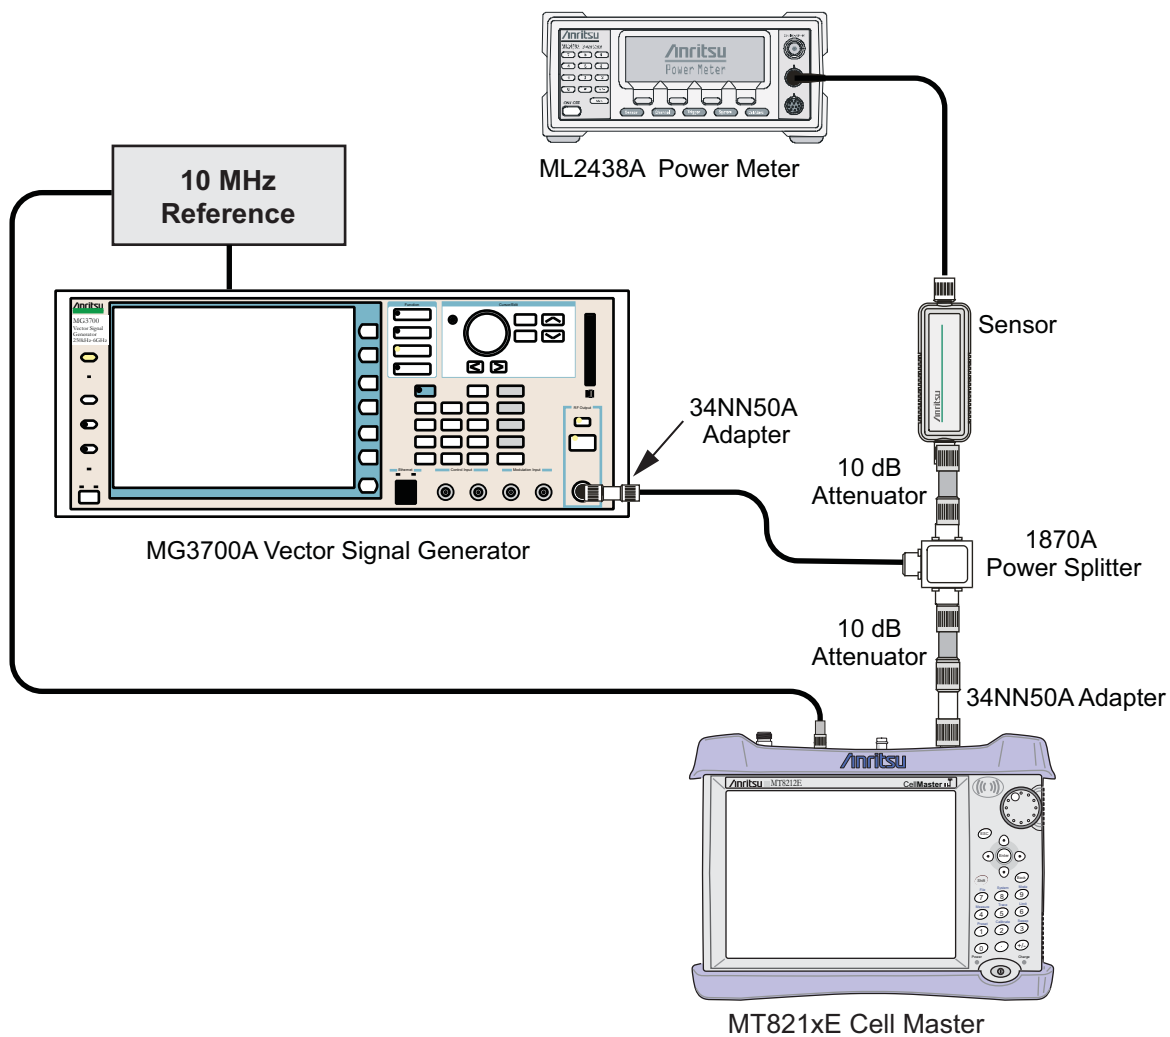

Figure 5-10. WCDMA Occupied Bandwidth (OBW) Verification
3. Connect the MG3700A, splitter, attenuator, power meter, and sensor as shown in Figure 5-10.
4. Press the **On/Off** key to turn on the MT821xE and wait until the measurement display appears then press the **Shift** key then press the **Mode** (9) key to activate the mode selection menu.
6. Press the **Shift** key, the **Preset** (1) key, and then the Preset submenu key.
4. Press the **On/Off** key to turn on the MT821xE and wait until the measurement display appears then press the **Shift** key, then press the **Mode** (9) key to activate the mode selection menu.
3. Connect the MG3700A, splitter, attenuator, power meter, and sensor according to Figure 5-10.